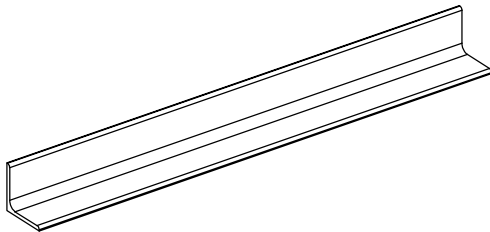

FIGURE 1: CUTTING THE W-1029C ANGLE
Step 2: Cut a piece of AA6-063X3/4X3/4, 7 13/16 inches long as shown in Figure 1.